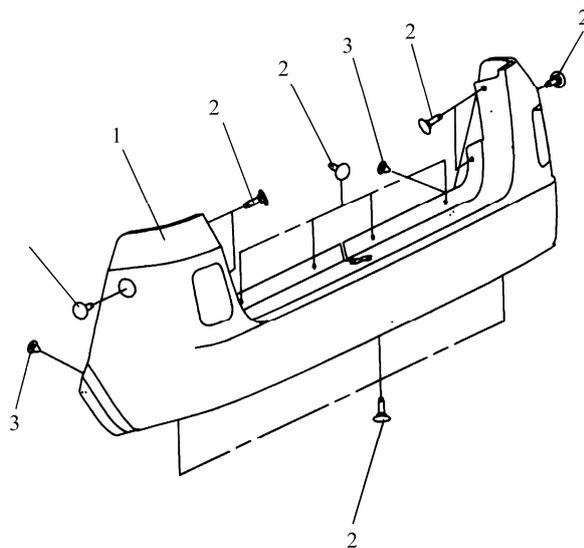

Fig. 19-39
- ① Remove plastic pin fixed on the outer side panel.
- ③ Remove the screw fixed on the body as shown in Fig.19-39
- ④ Disconnect all kinds of connector of rear bumper, remove the rear bumper along the horizontal direction.